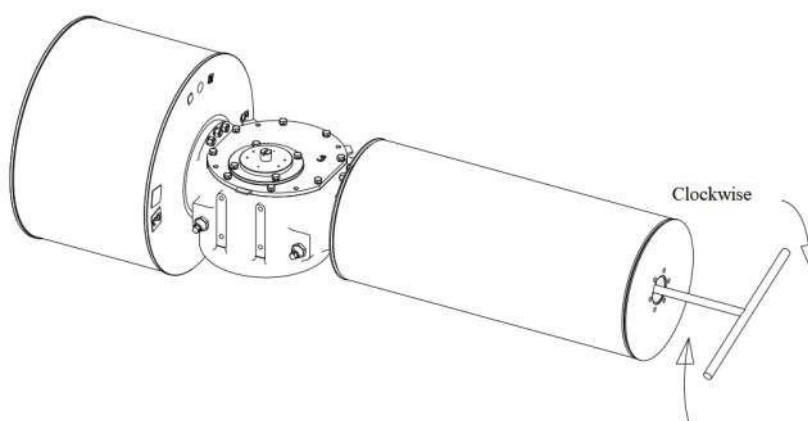

Figure 13
- 4) Rotate the special tool clockwise in the direction shown in Figure 13 to combine the spring rod with the transmission joint. Refer to Table 9 for the torque;